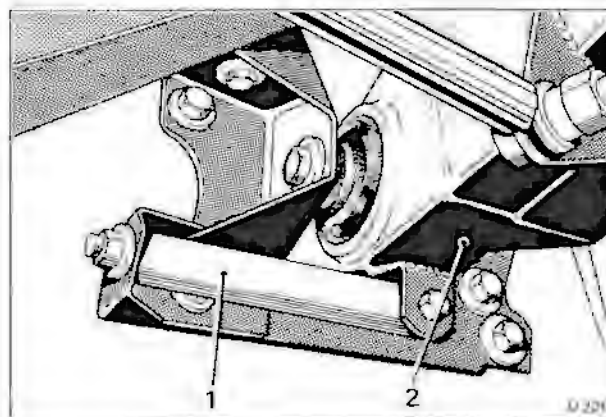

Fig. H8-3 Jury bolt in position
7. Remove one of the small dampers situated beneath each end of the rear crossmember and insert a jury bolt RH 9575 (see fig. H8-3). With the jury bolt in position, replace the damper from the other end of the crossmember with a jury bolt.